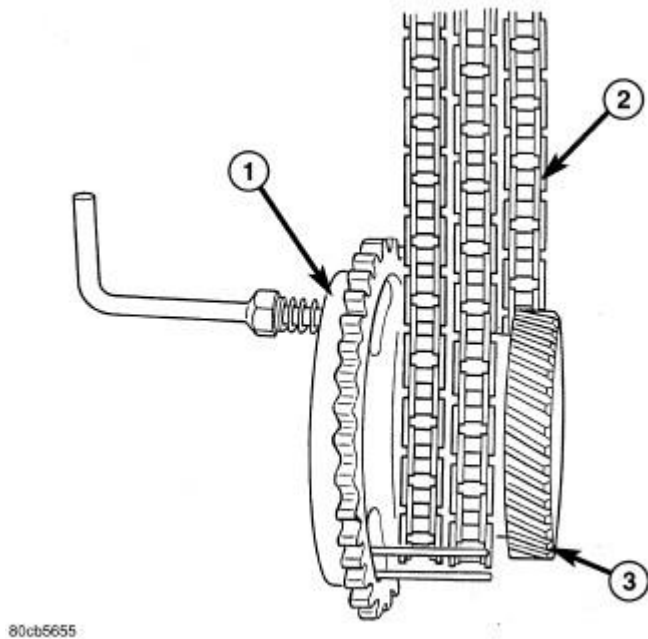

Fig. 51: Locking Secondary Timing Chains
15. Lock the secondary timing chains to the idler sprocket using the Secondary Camshaft Chain Holder (special tool #8429, Holder, Secondary Camshaft Chain) (1). Refer to **Fig. 51**.